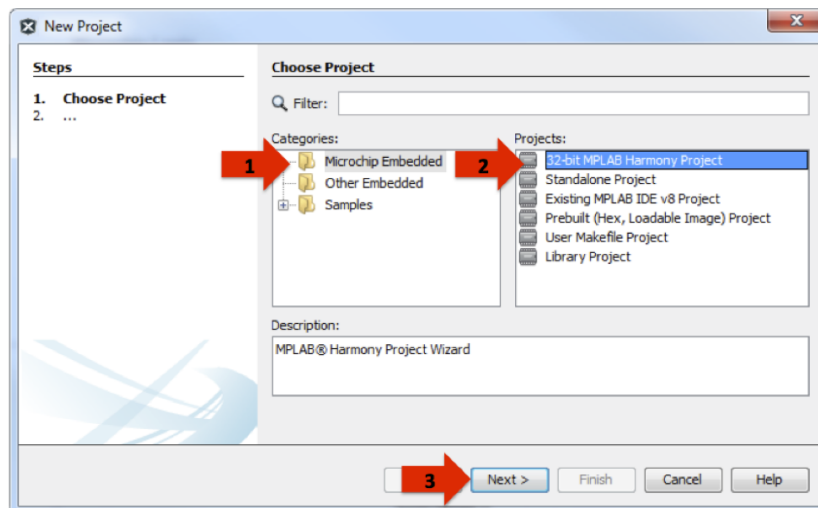

Figure 6: Creating a new MPLAB Harmony project
3. As shown in Figure 6, the first step is **Choose Project**. Select **Microchip Embedded** then the **32-bit MPLAB Harmony Project**. Then, click **Next** to open the Name and Location pane.